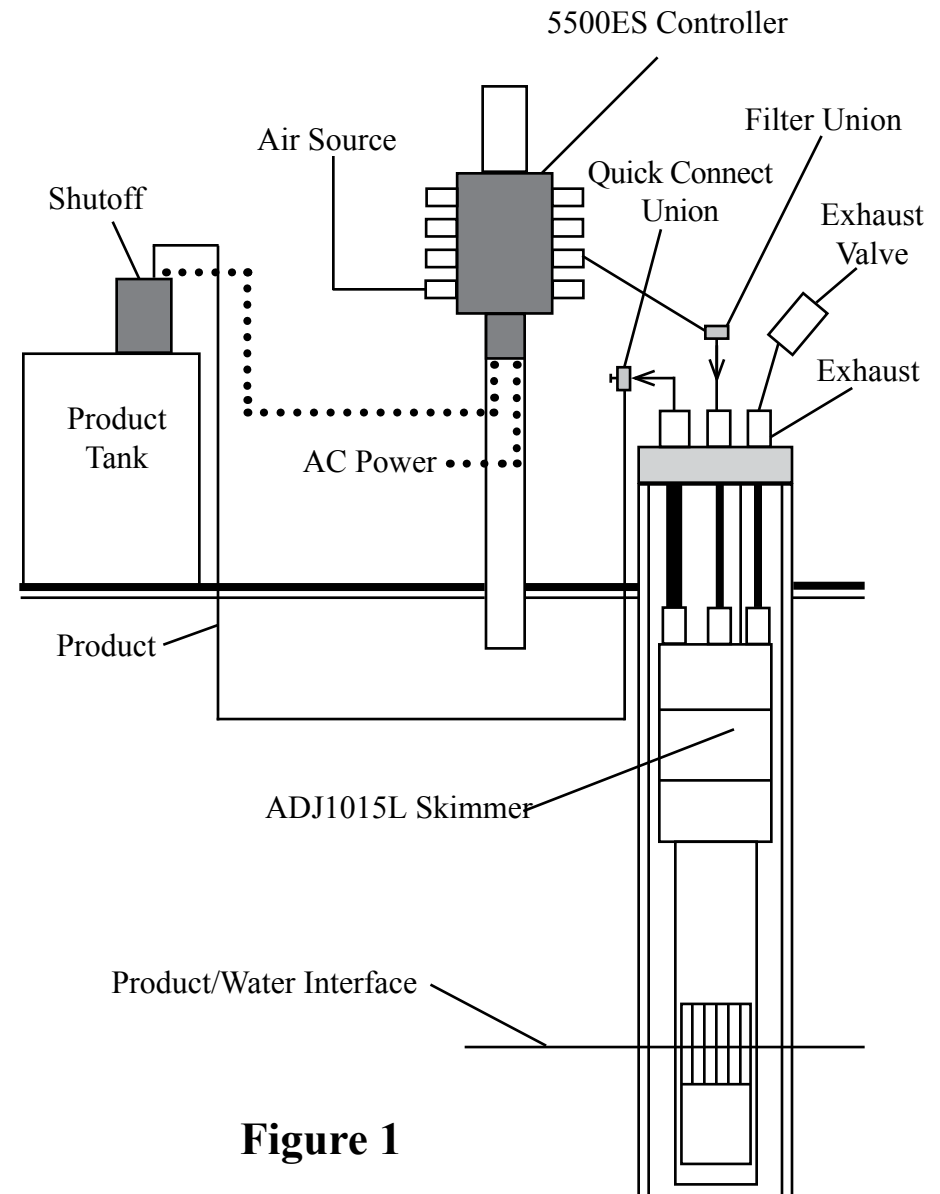
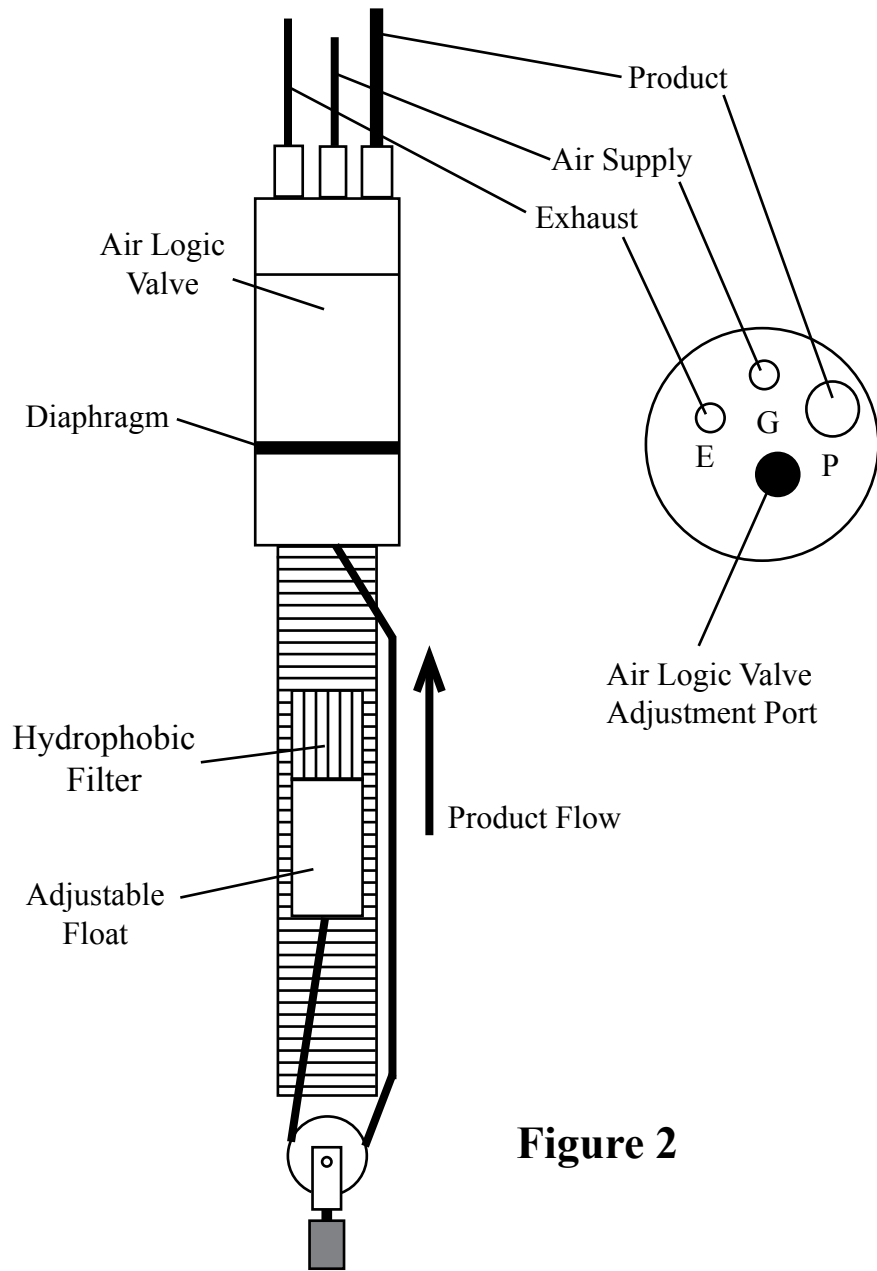

Figure 1
Figure 2
The system (Figure 1) relates to a floating LNAPL recovery system for wells four inches in diameter and larger. This system includes: an intrinsically safe ADJ1015L pneumatic Smart Skimmer, with an adjustable float (Figure 2), which removes LNAPL up to 200 feet deep; and a programmable Controller Model 5500ES which operates up to 16 skimmers intermittently, records run time, and has a high level tank shutoff assembly.
STEP 7. Position the skimmer and well cap on the ground near the well. **NOTE:** If the skimmer is over 60 feet deep, use a vented design skimmer. Cut a length of 3/8" OD air supply tubing to cover the distance from the top of the well down to water/product interface, plus 5 feet. Slide enough tubing through the well cap and attach the end of the tubing to the top of the skimmer tube fitting labeled "G" (Figure 2). If the product thickness is greater than 1 foot, position the center of the skimmer screen 1 foot below top of product. If the product thickness is less than 1 foot, position the center of the skimmer screen at the water/product interface.
STEP 8. Cut a length of 1/2" OD product tubing same length as the air supply line. Install 1/2" OD product tubing through the well cap tube fitting labeled "P" (Figure 2). Slide enough tubing through the well cap and attach the end of the tubing to the top of the skimmer tube fitting labeled "P". **CAUTION:** Do not kink the tubing.